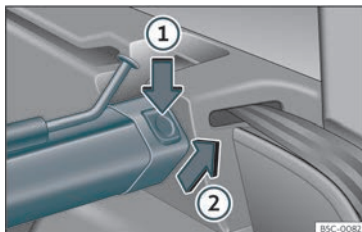

Fig. 132 In the luggage compartment: removing the net partition.
- Press the left or right release catch »» Fig. 132 in the direction of the arrow ①.
- Remove the casing from the support in the direction of the arrow»» Fig. 132 ②.
- Press the casing into the left and right supports in the opposite direction to the arrow »» Fig. 132 ② until it engages.